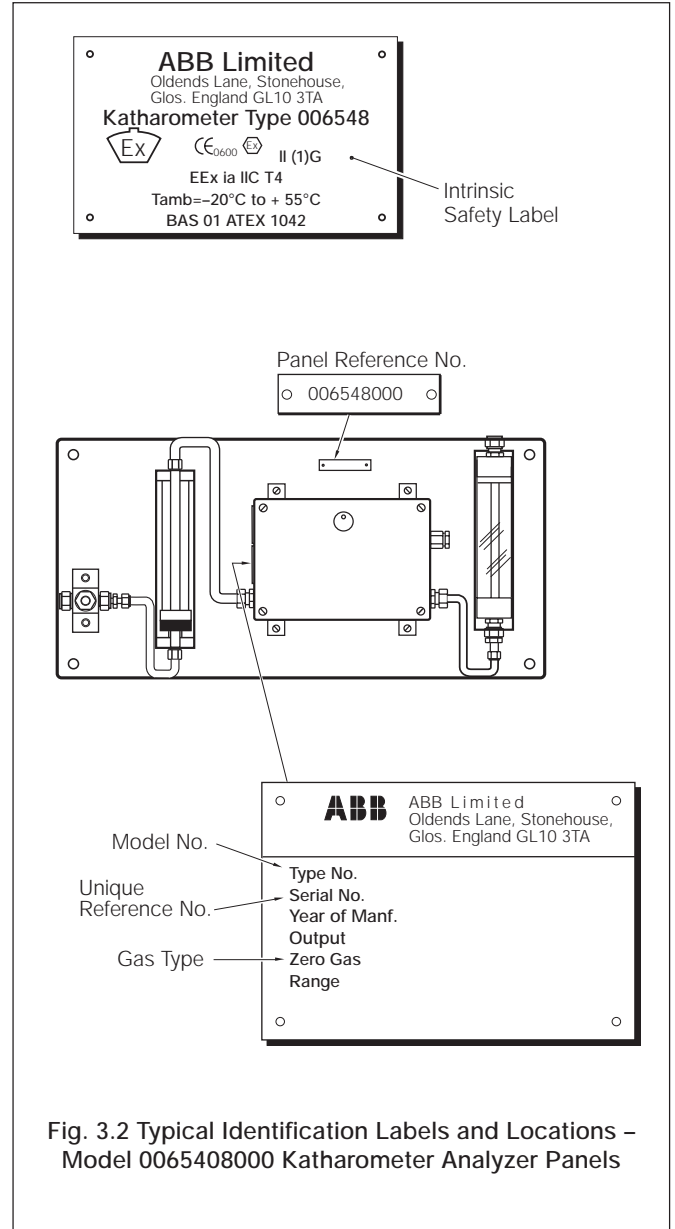

Fig. 3.2 Typical Identification Labels and Locations – Model 0065408000 Katharometer Analyzer Panels
3.1.2 Model 006540 203 or 006548 000 Katharometer Analyzer Panels – Fig. 3.2
The panel is identified by the reference number label as shown in Fig. 3.2. The identification and certification labels of the individual katharometer units (fixed to the katharometer case) are also shown in Fig. 3.2.